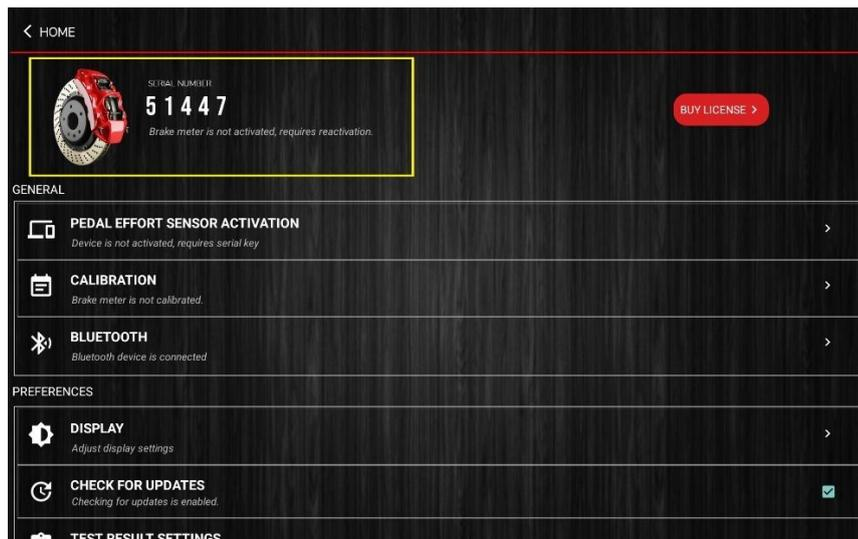

Figure 67
2. Inside the Brake Pro app, go to Settings. You can find the Serial Number at the top heading (Figure 67).